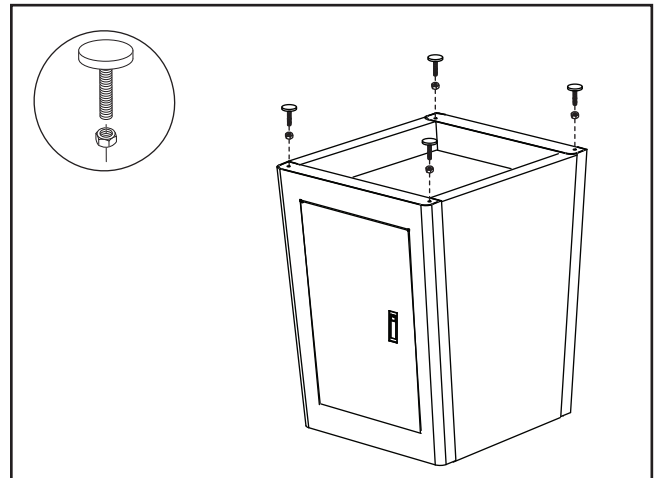

Figure 9. Foot installation.
4. Invert the cabinet, thread the (4) $\frac{3}{8}$ "-16 hex nuts onto the feet, and install the feet into the base, as shown in **Figure 9**.